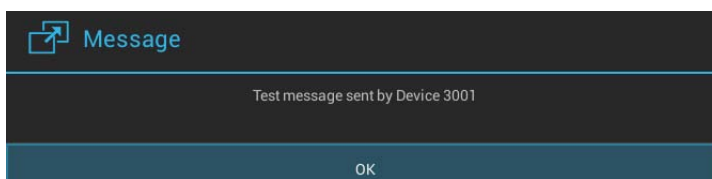

FIG. 40 Enzo - Successful Test Message
- To test the connection, press the *Share Content* icon in the RECEIVER LIST to send a test message to the Enzo unit. If the Enzo is communicating properly with the panel, it will indicate the test message on its connected display (FIG. 40):